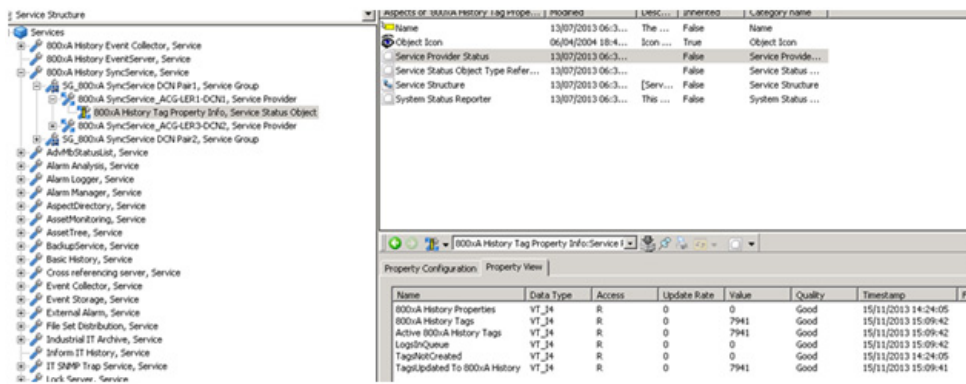

Figure 107. Synchronised State
- For example consider the Data Collector containing 7941 Tags, as shown in Figure 107.
- Make sure to fix the disconnected network and restart the 800xA History Sync Service to re-sync with the database and show the correct status in 800xA History Tag Property Info as shown in Figure 107.